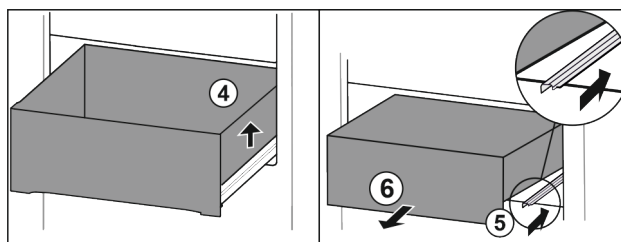

Fig. 114
- ▶ Lift drawer on the right. Fig. 114 (4)
- ▶ Slide in right rail. Fig. 114 (5)
- ▶ Remove drawer to the front. Fig. 114 (6)